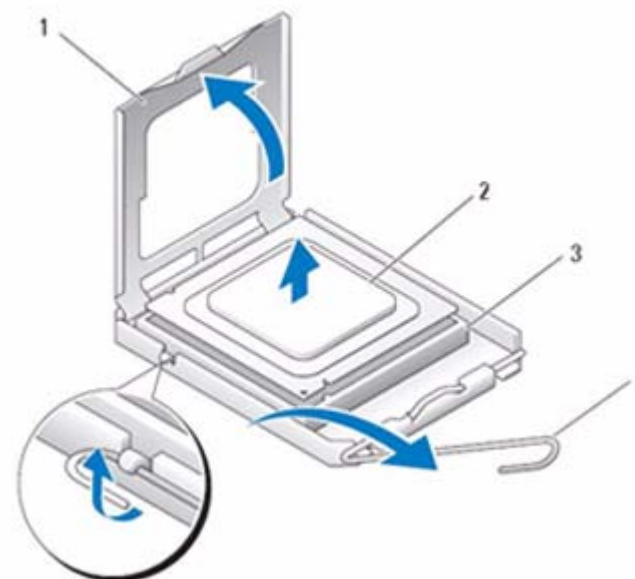

Figure 25:
7. Open the Processor Cover by sliding the Release Lever from under the center cover latch on the Socket. Then, pull the lever back to release the Processor as shown in Figure 25 on page 33.